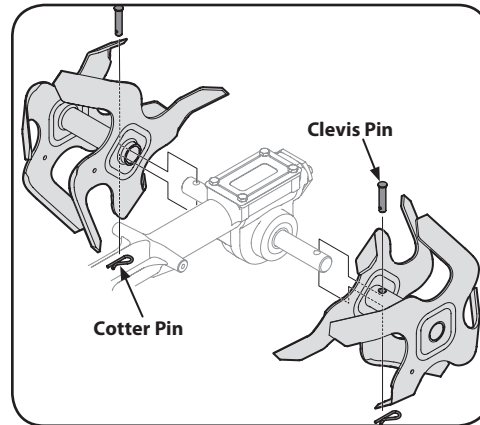

Figure 5-6
3. To remove a tine assembly, simply remove the cotter pin securing the clevis pin as seen in Figure 5-6. Remove the clevis pin and slide the assembly to the outside of the unit and off of the tine shaft.